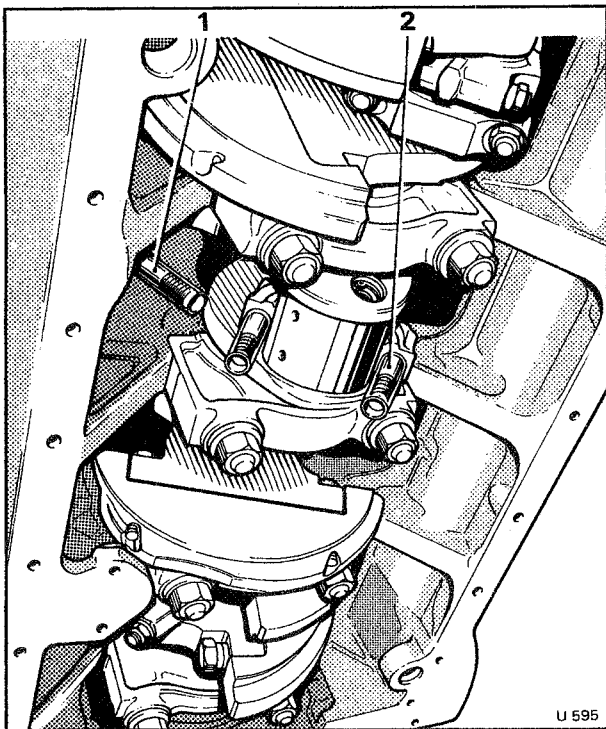

Fig. E17 Removing the big-end bearing shells
21. Fit protective rubber sleeving over the connecting rod bolts to prevent damage to the crankshaft (see Fig. E17). Do not remove the connecting rod bolts.